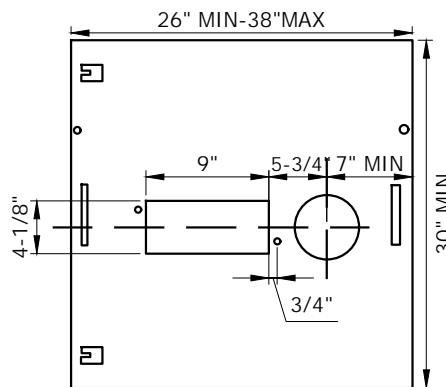

FIGURE 5
- Kirk Key interlocking is required between the VT disconnect and the VT compartment door so that, for personnel safety, the VT compartment cannot be entered until the following conditions are met: (1) the disconnect is fully open and visibly grounded, (2) when the VT disconnect is fully open, the disconnect blades must ground automatically, and (3) the disconnect is locked open with a key interlock system.
- Meter panel and hinges shall be designed to adequately support a 25-pound load applied to the unsupported end with 1/8 inch maximum sag when open. Bond meter door to switchgear enclosure with a #4 AWG flexible braided bond wire. Panel layout shall be as shown in EUSERC Drawing 408, see Figure 5.